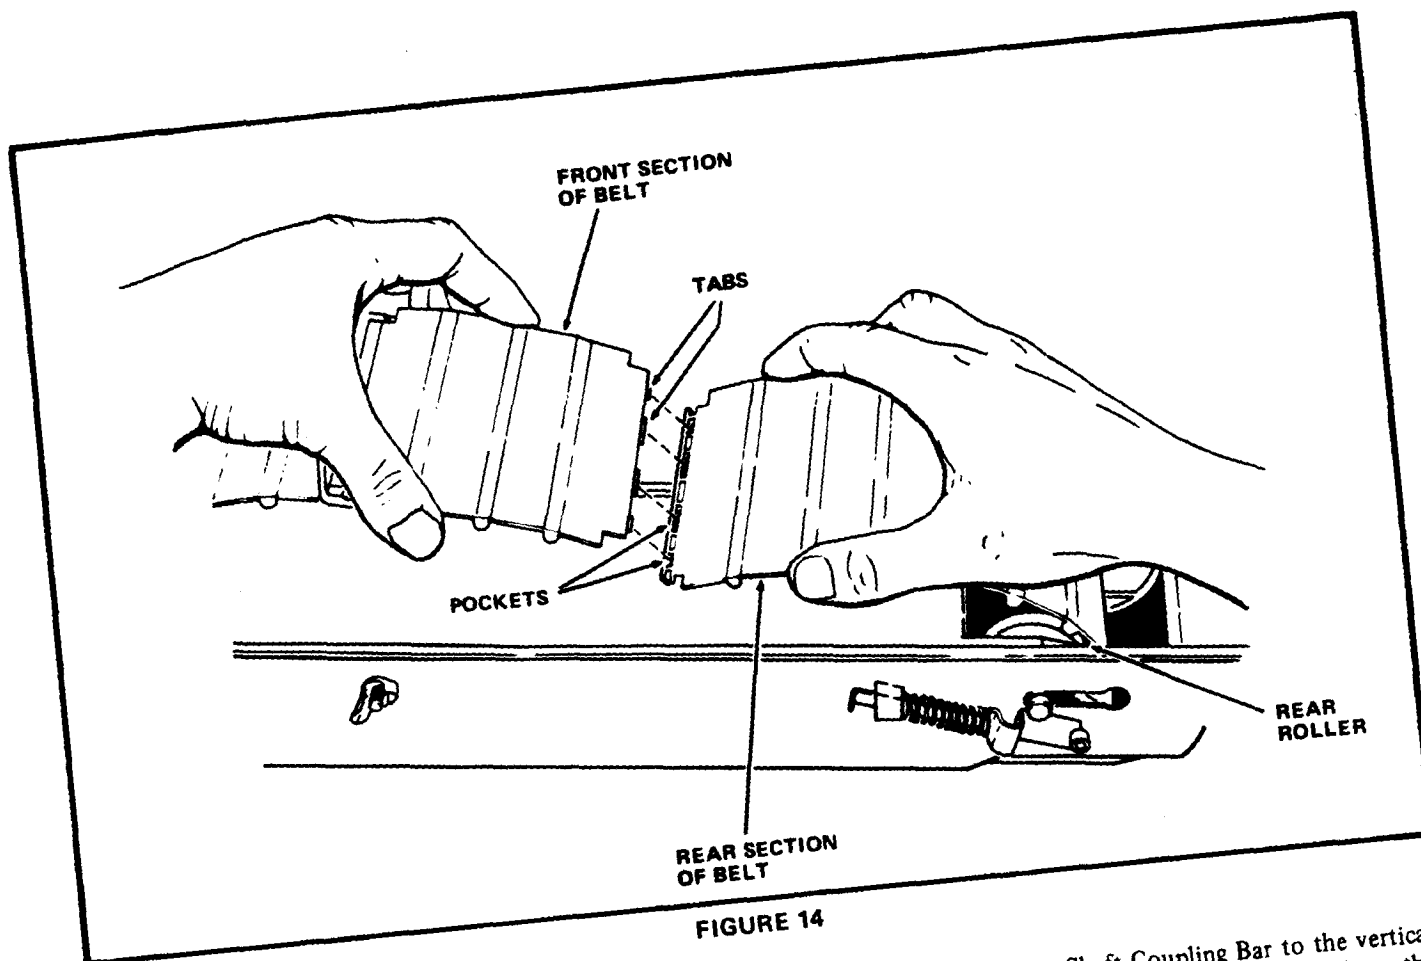

FIGURE 14
17. Grasp both ends of the Belt and pull them together. See Figure 14.
18. Insert the Tabs on the Front section of the Belt into the Pockets on the rear section of the Belt and snap the Belt together. See Figure 14.
19. Compress both of the Rear Spring Loads and place them in the Grooves on the Rear Sprocket Shaft. See Figure 14.